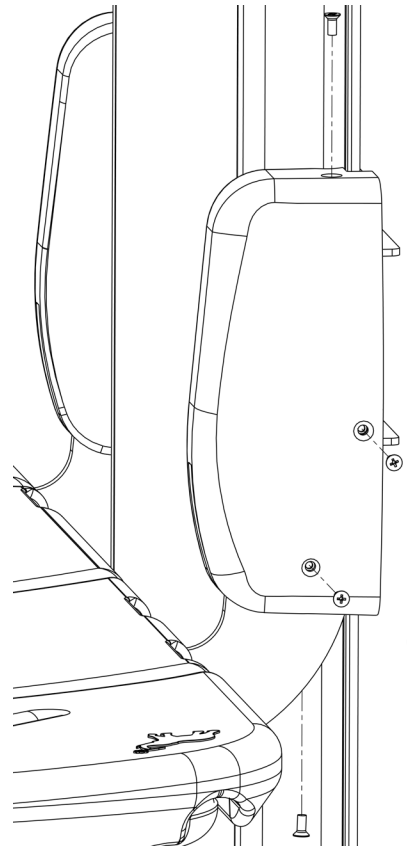

Fig 12.8c
- Fit the remaining three M5 x 8mm screws as shown in Fig 12.8c.